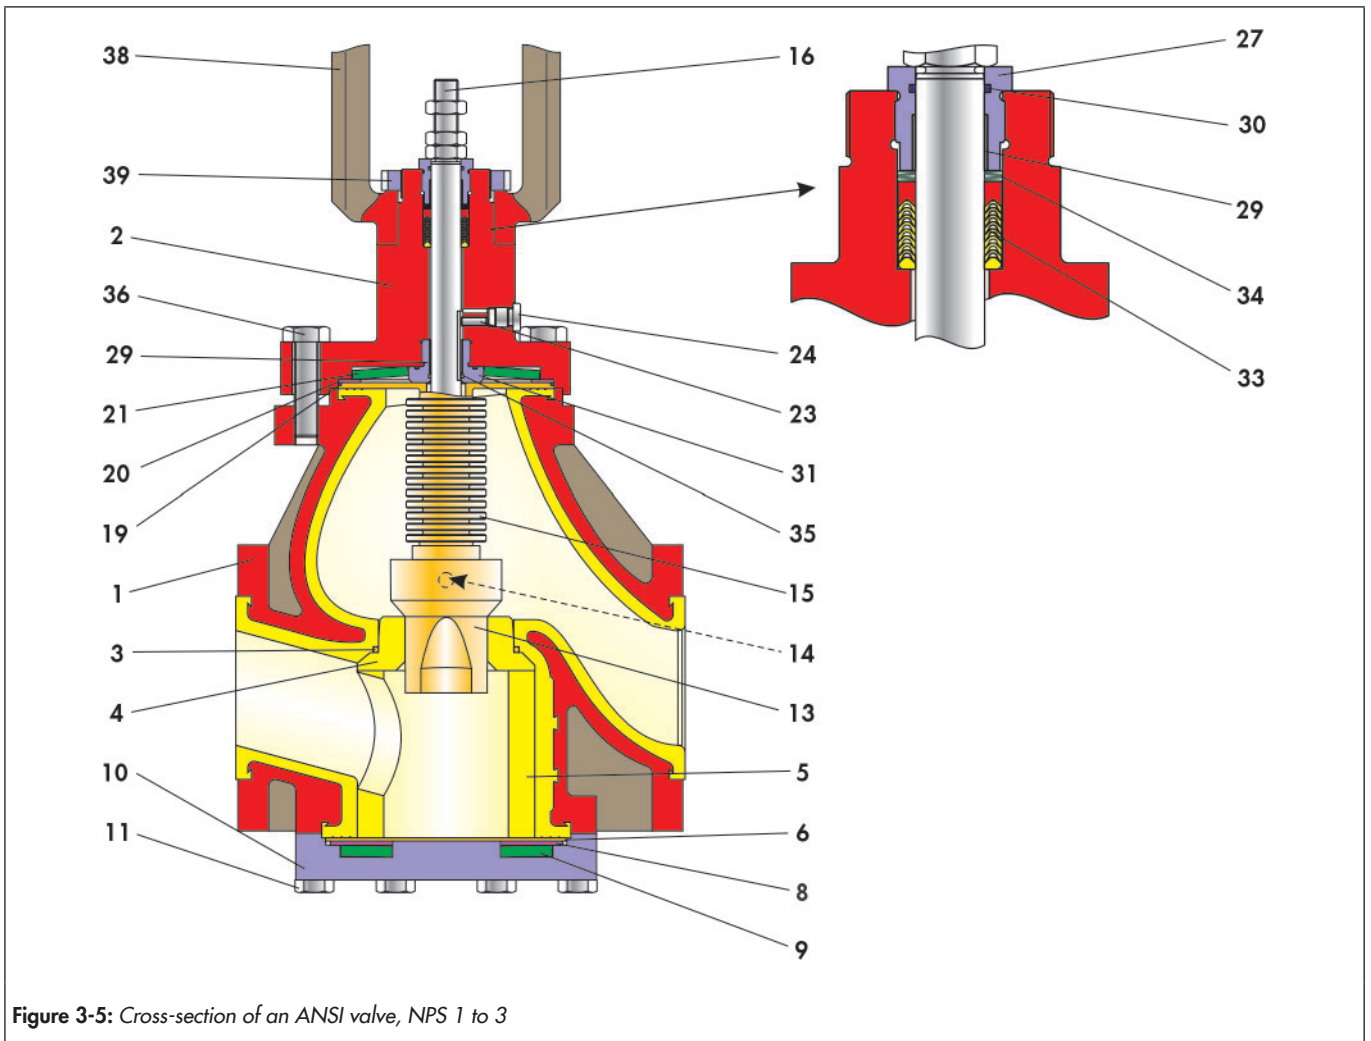

Figure 3-5: Cross-section of an ANSI valve, NPS 1 to 3
- ⇒ With a 5 mm drill bit, drill diagonally approx. 10 mm deep into the spacer (5) from the sealing surface.
- ⇒ Secure the spacer against twisting with a piece of PTFE cord (14) inserted into this borehole.
- ⇒ Lay the PTFE washer (6) on the spacer (5).
- ⇒ Place the thrust washer (8) on the PTFE washer (6).
- ⇒ Insert the spring washers (9). For the position of the spring washer, see Figure 3-5.
- ⇒ Carefully place the bottom flange (10) on the body.
- ⇒ Fit the washer (6), thrust washer (8) and spring washers (9) centrally in the bottom flange.
- ⇒ Screw the screws (11) into the valve body. Tighten the screws evenly in a criss-cross pattern.
- ⇒ Place the bonnet flange (2) on a clean surface at working height so that the stem guide is easy to reach.
- ⇒ Insert the distance bushing and V-rings and lock ring of the V-ring packing (33). For the arrangement of the packing rings, see Figure 3-5.
- ⇒ Insert the set of spring washers (34) into the provided hole. Arrangement of the spring washers, see Figure 3-5.
- ⇒ Insert the O-ring (30) into the inner groove of the stuffing box (27).
- ⇒ Press the upper bearing bushing (29) into the bottom part of the stuffing box (27).
- ⇒ Grease the stuffing box (27) on the thread.
- ⇒ Screw the stuffing box (27) into the upper thread of the bonnet flange (2), the outer groove of the stuffing box is still visible.
- ⇒ Insert the spring washer (21), thrust washer (20) and O-ring (19) in the bonnet flange (2). For the arrangement of the components, see Figure 3-5.
- ⇒ Strike the grooved pin (23).
- ⇒ Screw in the locking screw (24).